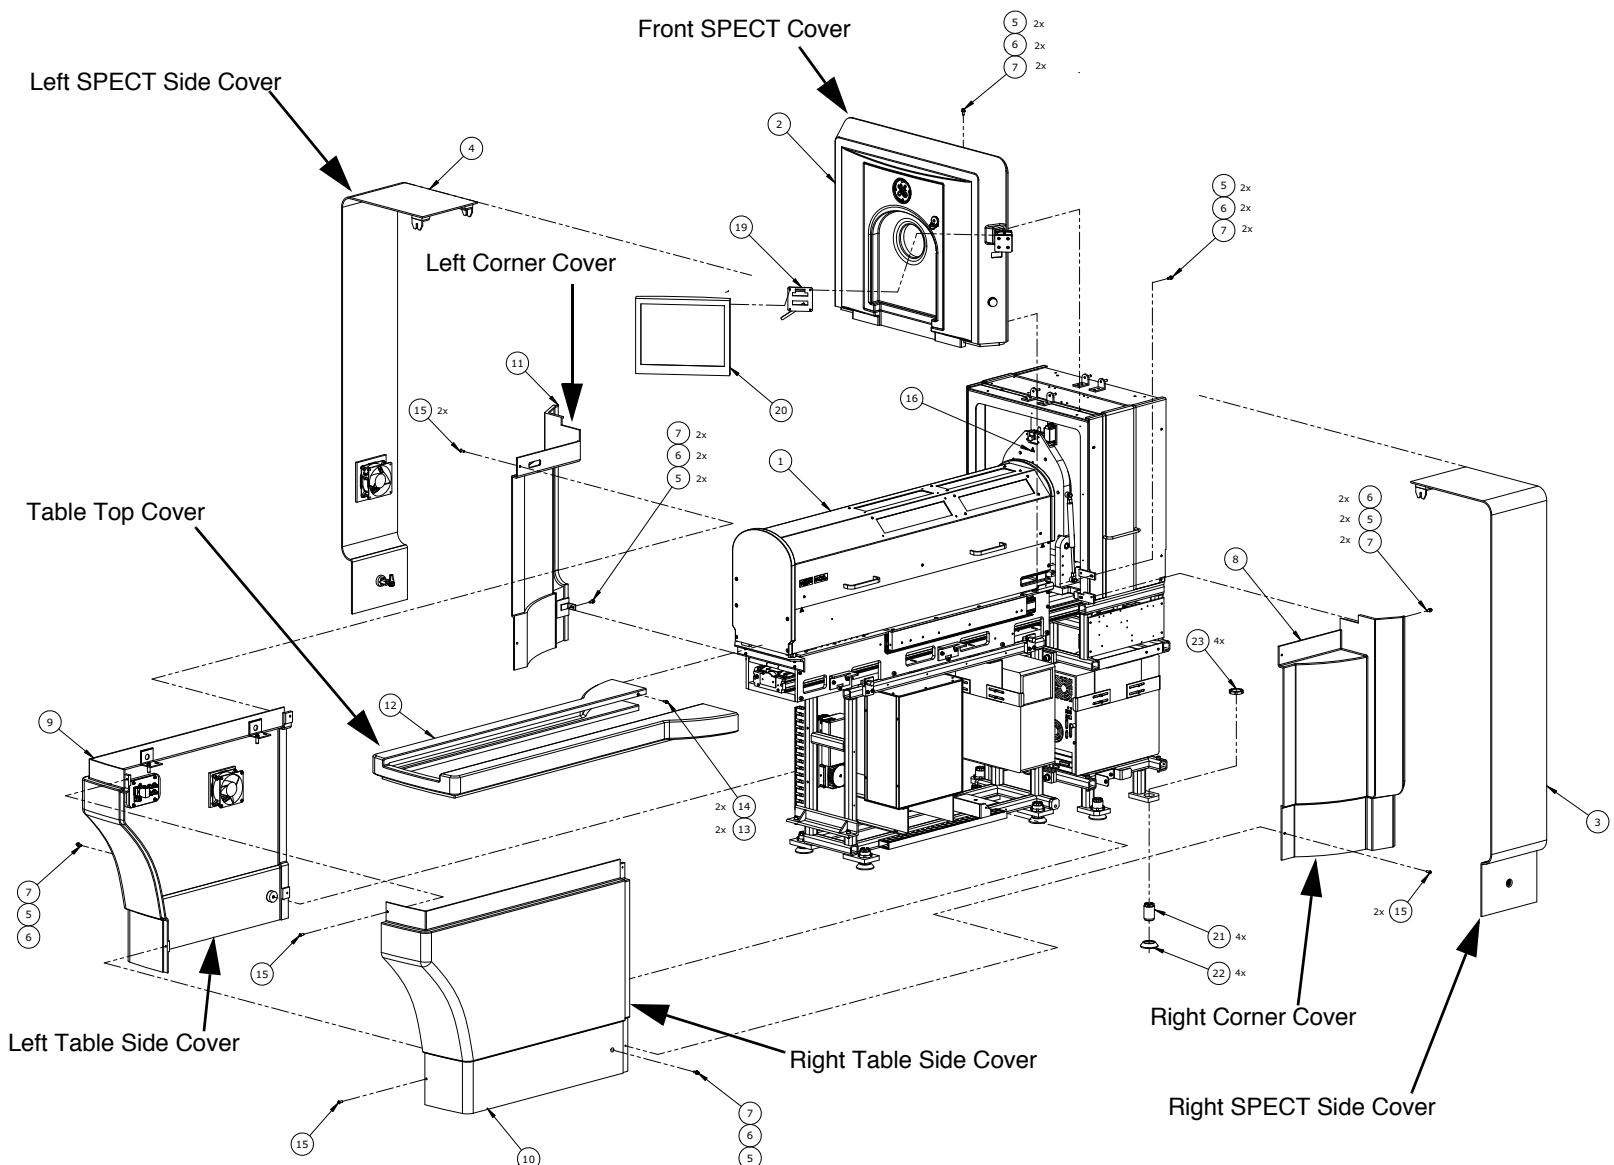
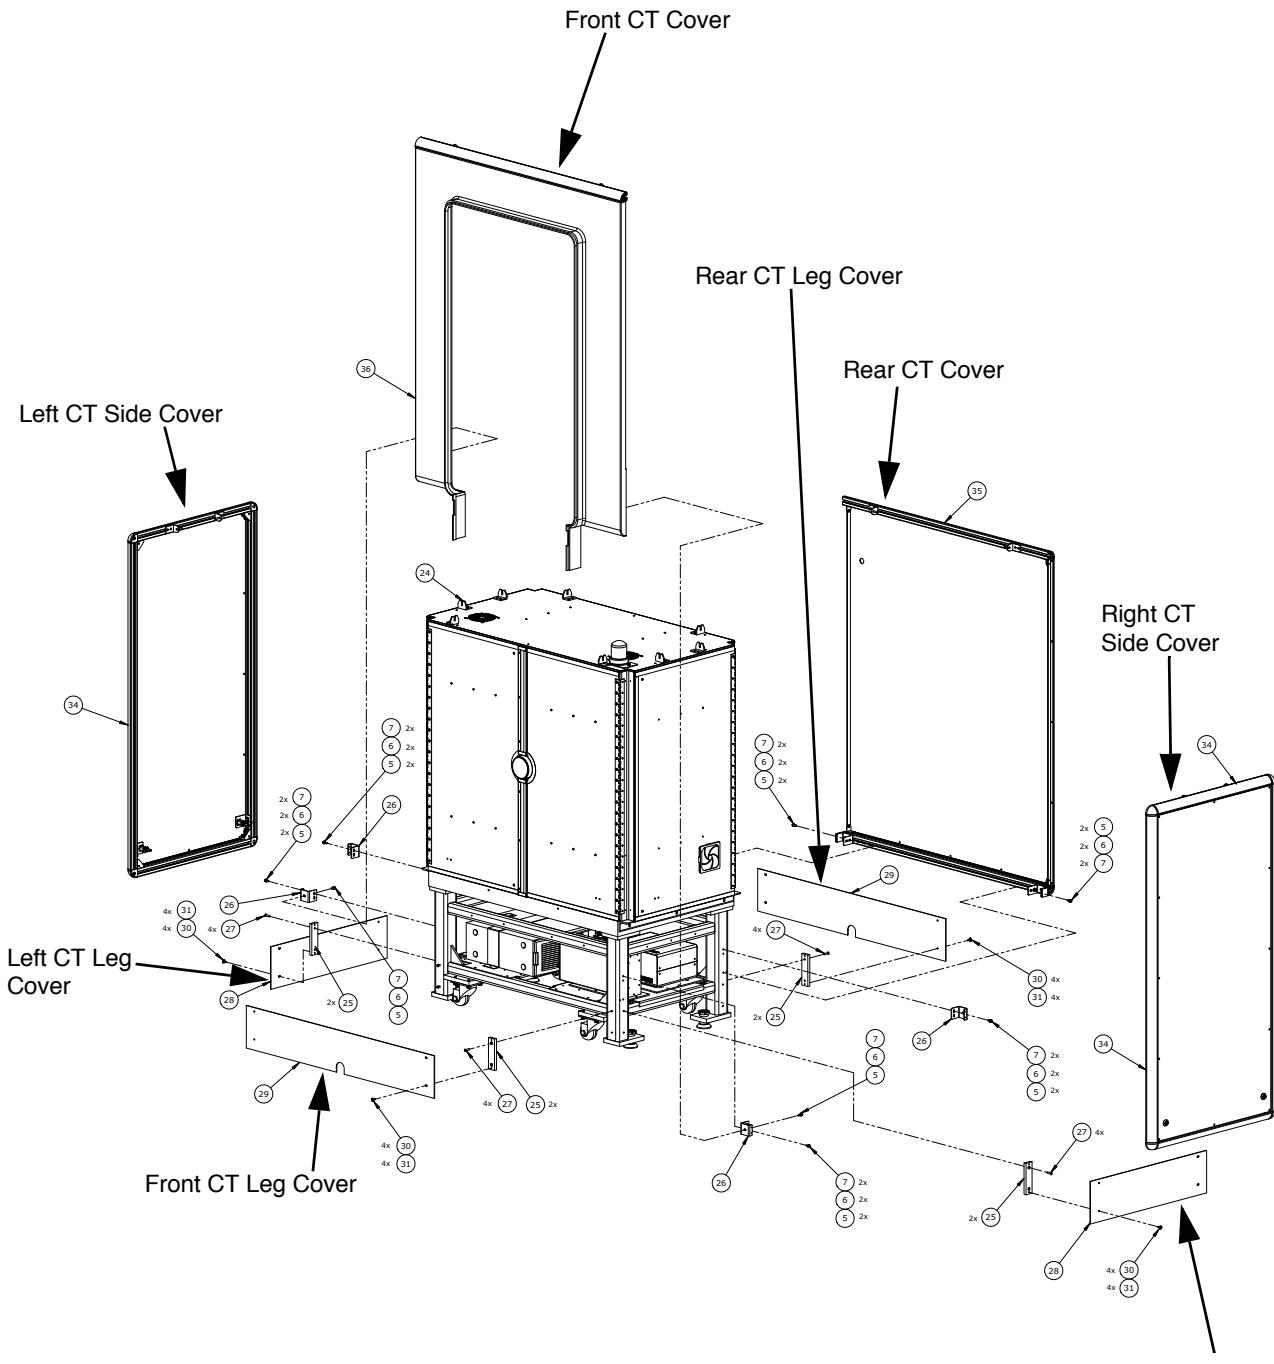

Figure 5-2 SPECZT - Table/SPECT Unit (Long Table)
Figure 5-3 SPECZT - CT Unit (Long Table)
Refer to Figure 5-2 and Figure 5-3. Descriptions are provided on the pages following the illustrations for removal and replacement of the covers.
1. Using an Allen key, turn the lock at the base of each of the Left Side Cover (5255219, Item 4 in Figure 5-2) and Right Side Cover (5261000, Item 3 in Figure 5-2) one quarter turn counterclockwise. Lift until the brackets un-hook at the top. On the Left Side Cover, disconnect the fan cable. Carefully set covers aside.
2. From the top of the SPECT unit, remove two (2) M6 socket screws (2109867-13), lock washers (2109880-3) and flat washers (2109878-3) holding down the brackets on the SPECT Upper Front Cover (5195387, Item 2 on Figure 5-2). Also remove two (2) M6 socket screws (2109867-13), lock washers (2109880-3) and flat washers (2109878-3) holding the cover to the SPECT unit through brackets on either side of the base of the unit. See Figure 5-2, Items 5,6 and 7 for hardware locations. Lift cover higher than the Table shield and carry to a safe storage location.
Removing the Table unit covers will provide access to the Table base assembly and all Table electronics. See Figure 5-2.
See Figure 5-3.